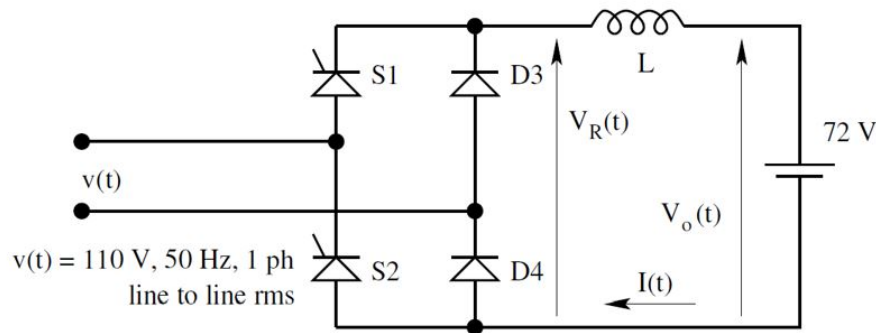

Fig. 4: Battery charger.
4. Fig. 4 shows the circuit of a battery charger. The power converter is a half controlled rectifier. The ac power input is at an ac voltage ( $V_{ac}$ ) of rms 110 V. The frequency of the ac input power is 50 Hz ( $f$ ). The current output of the rectifier is filtered by the output inductor  $L$ . The battery current is  $I(t)$ . The battery voltage is 72 V dc. Through appropriate control, the battery charging current is set for an average value ( $I_o$ ) of 10 A dc.